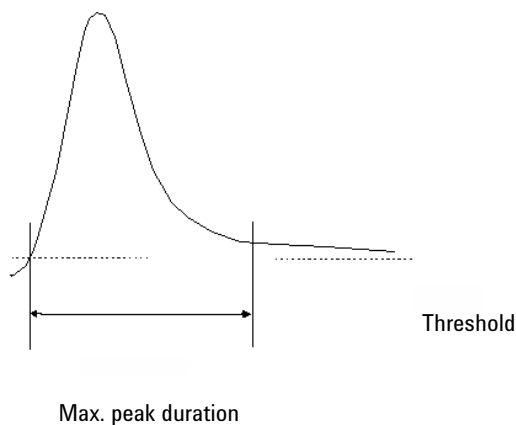

Figure 5 Maximum Fraction Duration
**Max. Peak Duration:** Defines a maximum collection time in case that the signal does not reach the condition to cut the fraction as exhibited in Figure 5 on page 56. This could be caused by tailing peaks or if the baseline is drifting during gradient runs. The default value is set to 0.5 minutes. If broad peaks are expected, this value should be increased without exceeding the run time.